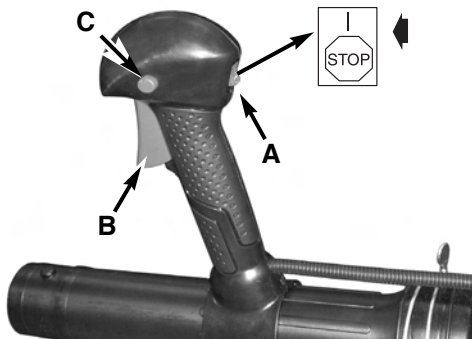

Fig. 9
1. Move on/off ignition switch (A) to the "RUN (I)" position. (Figure 9)